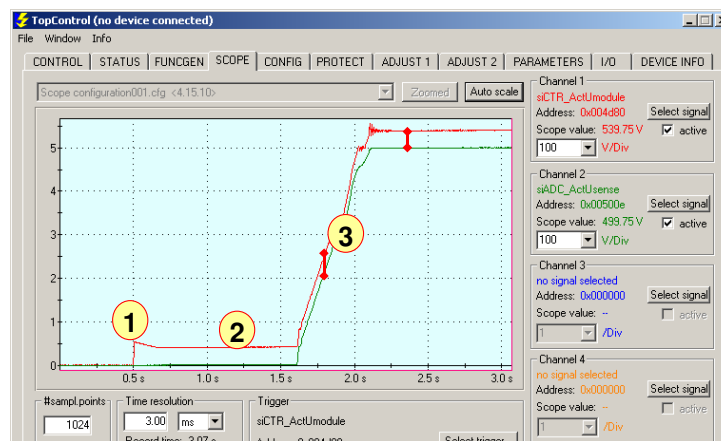

Fig. 22 Illustration of the switching-on process
The starting process from power-on [Voltage ON] can be seen in Fig. 22: in the first phase the voltage $V_{\text{actModule}}$ (top curve) increases to the value V_{drop} (e.g. 50V) for the linear post-processing unit (see (1) in Fig. 22). This value results from the measured sense voltage (output of TC.LIN is still blocked, hence output voltage is 0V) with the added drop voltage U_{drop} . This in total sums up to 50 Volts that is presented at the output of the TopCon device (not output of TC.LIN). During the subsequent phase lasting approx. 1s, among other tasks the AAP curve is transmitted to the TC.LIN (2).
After this period, the TC.LIN starts opens the control and the voltage at the output rises (3). This slope is a linear, adjustable function (start-up ramp, default duration = 1s) and prevents the output voltage from overshooting (cf. lower graph in Fig. 22). The output voltage on the TopCon power supply remains in this case constant at V_{drop} above the measured voltage (V_{sense}).